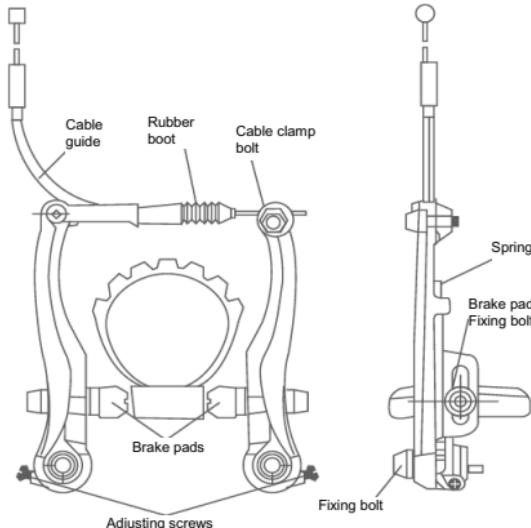

Figure 10
- b. Both pads should have the same distances to the rim, about 1-2 mm. They can be adjusted with adjusting screws. (Figure 10)